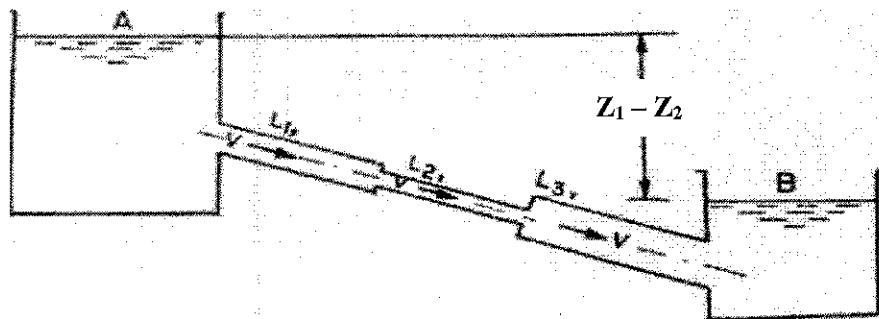

Figure 4(c)/Rajah 4(c)
- CLO2 c) Referring to **Figure 4(c)**, two large reservoirs were connected by three pipes with the following measurement: $L_1 = 30 \text{ m}$, $L_2 = 15 \text{ m}$, $L_3 = 28 \text{ m}$, $d_1 = 150 \text{ mm}$, $d_2 = 100 \text{ mm}$ and $d_3 = 150 \text{ mm}$. The entry and exit sections are sharp and suddenly changed. Tank B is 6 m below tank A. The coefficient of friction is 0.01 for all three pipes and coefficient of contraction, C_c is 0.6. Calculate the flow rate, Q.